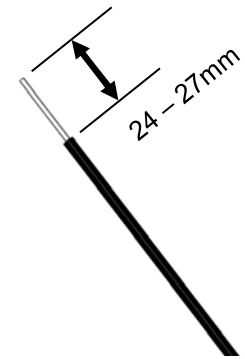

Fig 6
7.After stripping, the fibers should appear as they do in Figure 6.